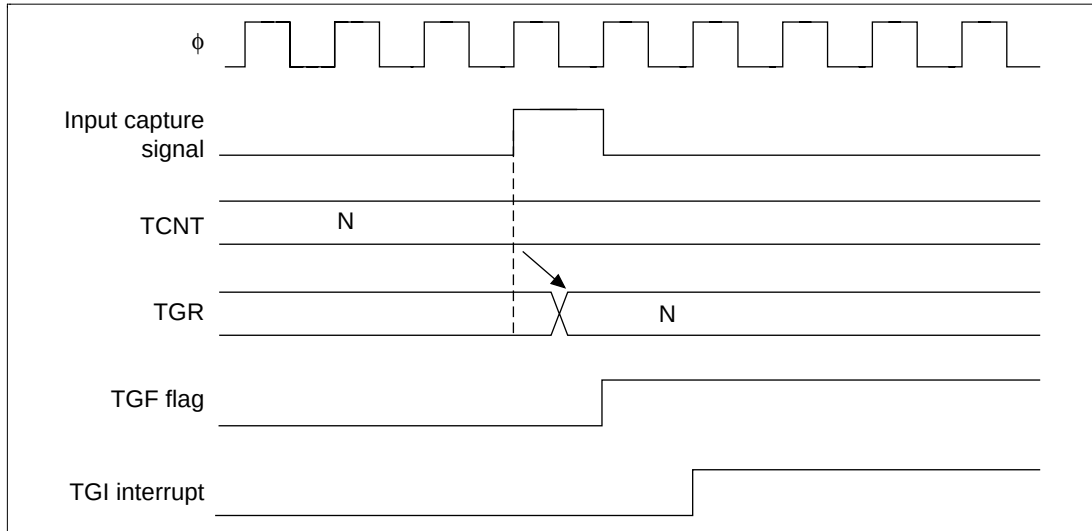

**Figure 12.70 TGI Interrupt Timing (Input Capture)**
**Setting TGF Flag Timing during Input Capture:** Figure 12.70 shows timing for the TGF flag of the timer status register (TSR) due to input capture, as well as TGI interrupt request signal timing.